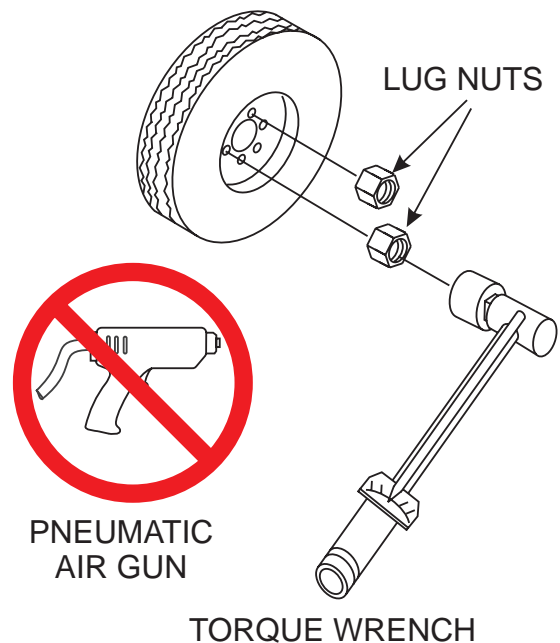

Figure 36. Wheel Lug Nuts Tightening Sequence
2. Torque all lug nuts in sequence. See Figure 36. **DO NOT** torque the wheel lug nuts all the way down. Tighten each lug nut in 3 separate passes as defined by Figure 36.